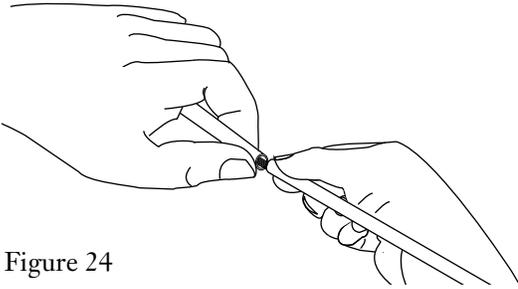

Figure 24
- d) Carefully flex the tube to break it at the score point. The break should be clean and free of rough edges (Figure 24).